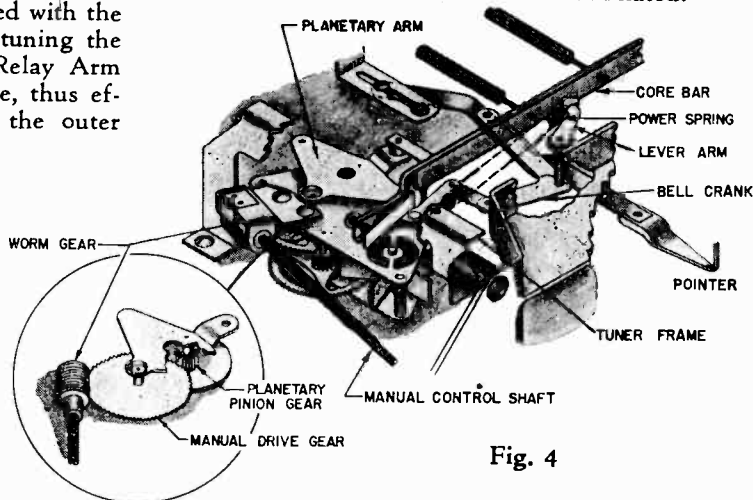

Fig. 4
Pointer and Core Bar Linkage (See Fig. 4)
- D. Spring loaded dial pointer scans dial. (Fig. 4)